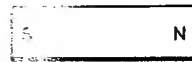

FIG. 5.
- (v) Bar magnet with a piece of soft iron $\frac{1}{4}$ " from one pole. Record the pattern on Fig. 5.
3. Why does the soft iron in Fig. 5 show a pattern?